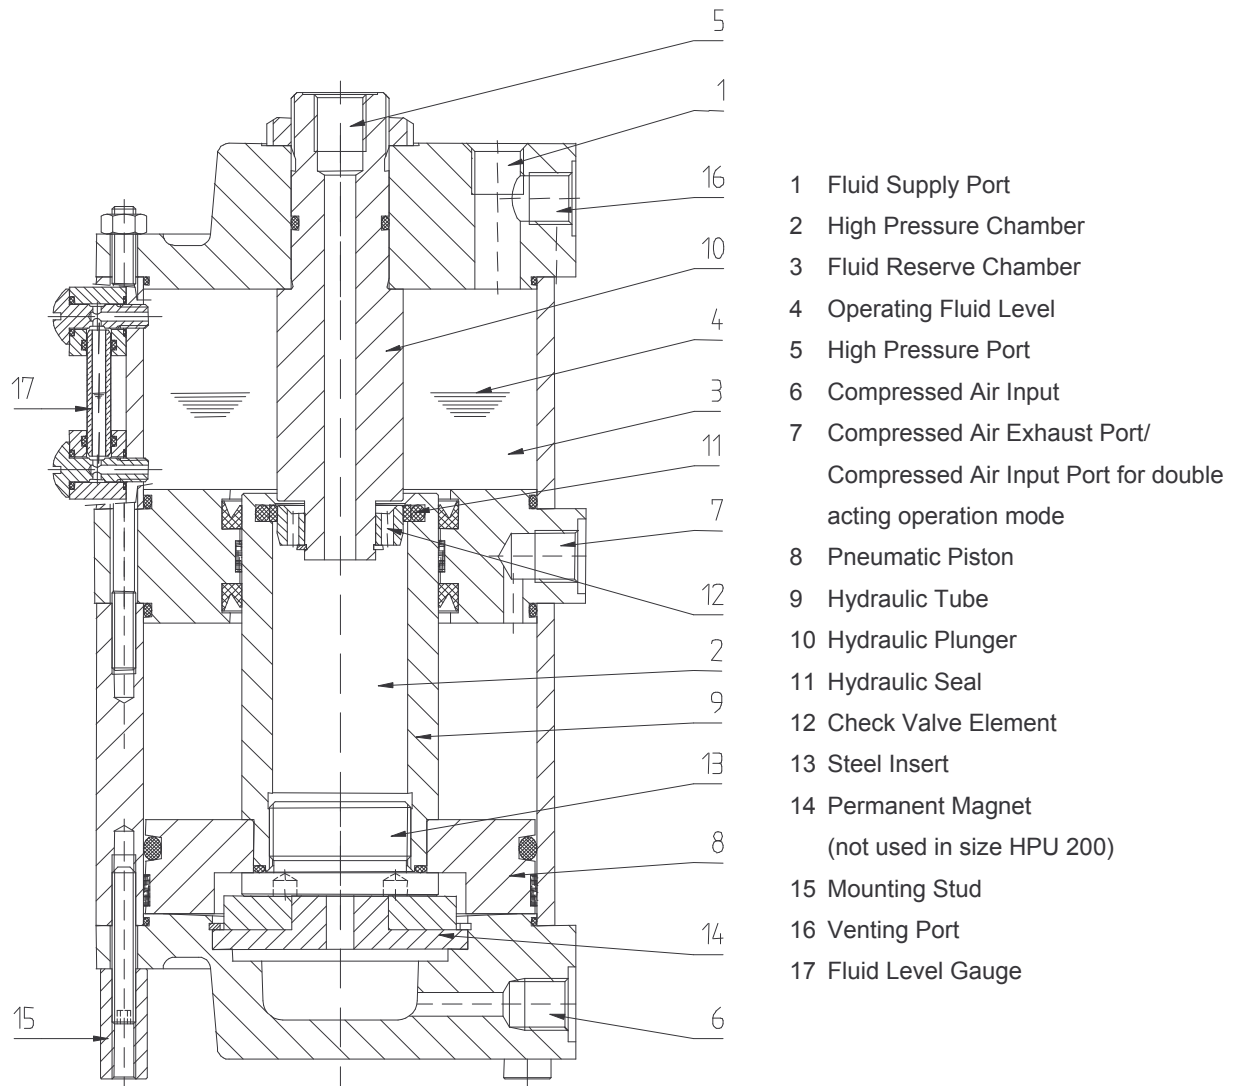
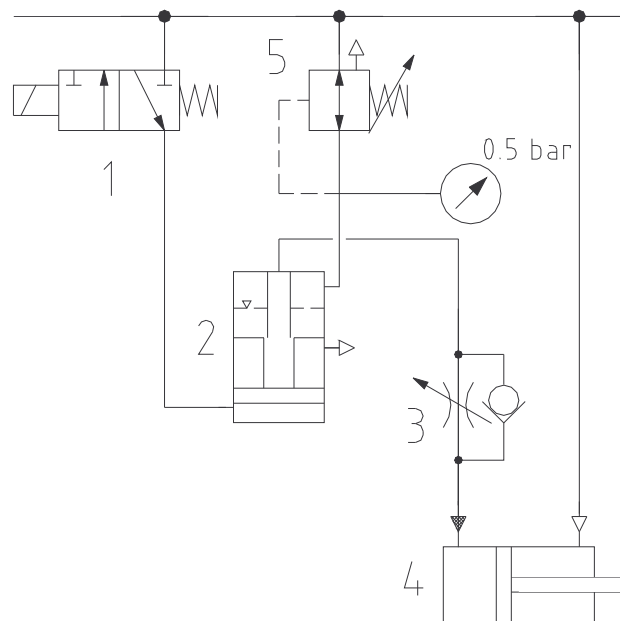
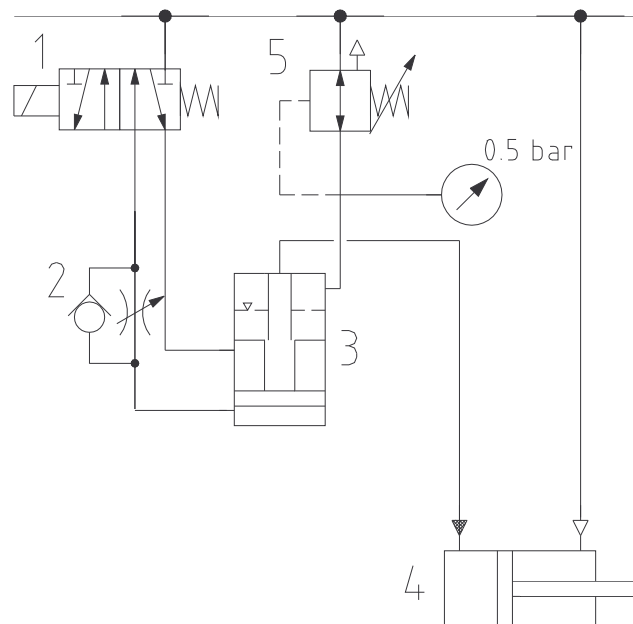

Fig. 1 Crossection of HPU Pressure Intensifier
Fig. 2 Single-Acting Operation
Fig. 3 Double-Acting Operation
The HPU Pressure Intensifier can be installed to operate in either SINGLE-ACTING (Fig.2) or DOUBLE-ACTING (Fig.3) Mode
In **Single-Acting Operating Mode** (Fig. 2) the oil column is returned from the Work Cylinder to the Pressure Intensifier until the internal Check Valve #12 opens. Piston #8 with the integral steel insert is completely pulled into its starting position by the magnetic field of the Ring Assembly #14 (Fig. 1). Thus, any leakage from the drive is automatically compensated for and air is prevented from entering the system by the dynamically acting Seal # 11 and the internal Check Valve #12.
In order to reduce the work cycle time in a system using a Pressure Intensifier, it is recommended that an Air Pressure Regulator #5 (relieving type) set at approx. 0.5 to 1 bar (7 to 14 psi) be applied at port #16 (Fig. 1).
In order to improve the efficiency and, in particular, to increase the speed at which the Pressure Intensifier can stroke, the system can be operated in Double Acting Mode (Fig. 3). For this mode the return flow should be metered through a Flow Control Valve #2 Fig. 3) at port #6 (Fig. 1) to adjust the speed of the return stroke of the high-pressure Tube #9 (Fig. 1) to the system speed. Without this measure chances are that the Pressure Intensifier will run ahead of the Work Cylinder causing a negative pressure in piping and Work Cylinder. This would result in air entering the system.
- The Pneumatic Piston #8 (Fig. 1) is in the starting position.
- The Pressure at port #16 (Fig. 1) must be zero.
Before starting the filling process at port #1 (Fig. 1) the hydraulic connection at the Work Cylinder should be loosened to permit the air in the hydraulic piping to escape. As soon as fluid starts to leak out, the connection must be tightened again. By using a funnel to charge the system with fluid, the air in the Reserve Chamber #3 will be vented during the process.
- The Pressure Intensifier is charged through port #1 (Fig. 1) with an industrial oil, such as type DIN-E 51 524 or Mobil Vactra #1, until the fluid level on the indicator has reached the mark of approx. 2/3 full.